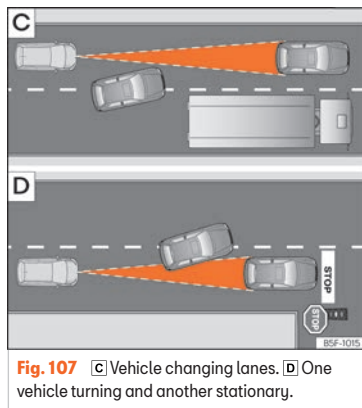

Fig. 107 [C] Vehicle changing lanes. [D] One vehicle turning and another stationary.
- Vehicles that move into your lane, a short distance from your vehicle >>> Fig. 107 [C].
The ACC does not react to stationary vehicles. If, for example, a vehicle detected by the ACC turns or moves over and there is a stationary vehicle in front of it, the ACC will not react to the second vehicle >>> Fig. 107 D.